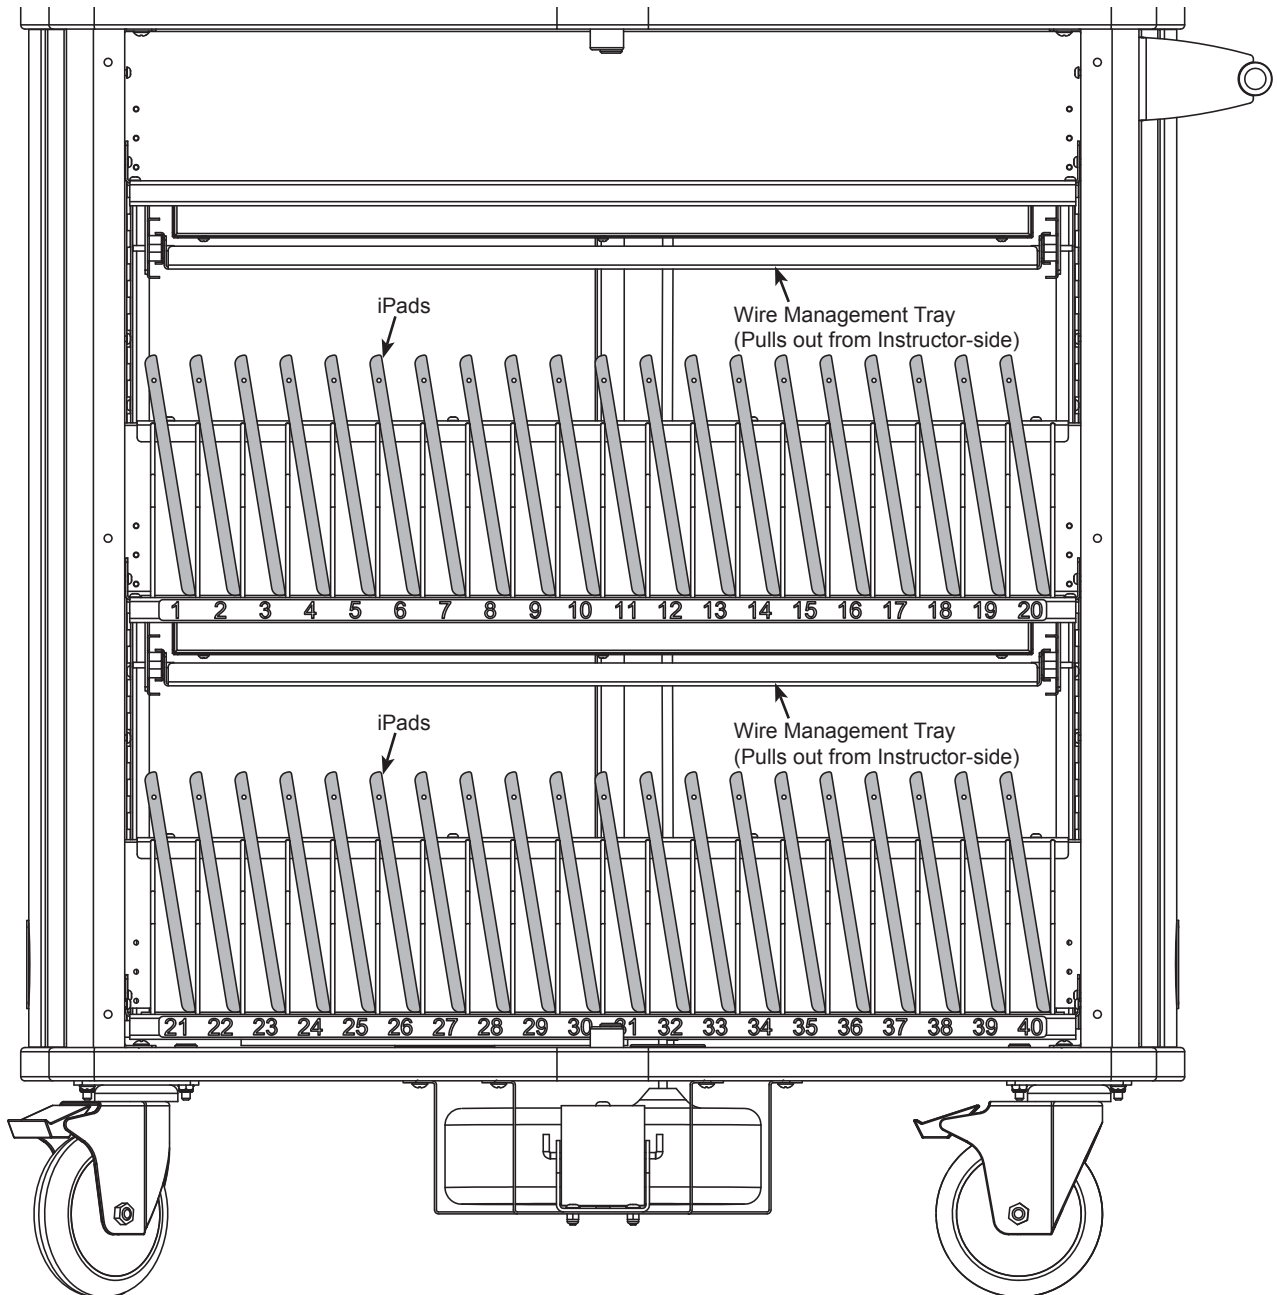

Figure 2
- B. Place up to 40 iPads in the cart. Figure 2.